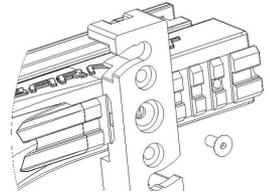

Fig. 1
- Slide on the plastic quick detach quiver bracket until it lines up with one of two optional quiver placement holes. Attach with screw provided. **See Figure 1**